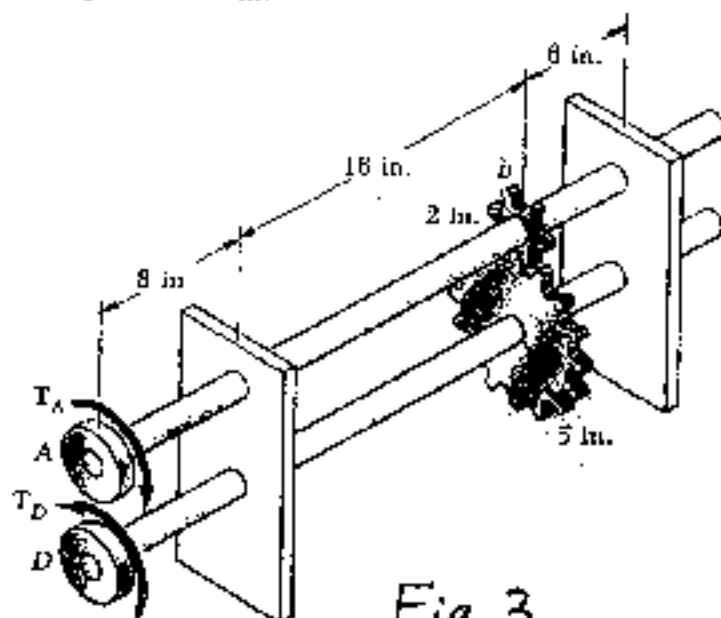

Fig. 3
3. The design specifications for the gear-and-shaft system, as shown in Fig. 3, require (i) that the same diameter be used for both shafts and (ii) that the rotating angle of pulley A be less than 7.5° . The pulley A is subjected to a $2 \text{ kip}\cdot\text{in}$ torque T_A while pulley D is held fixed. The radii of gears at B and C are 2 in and 5 in, respectively. Determine the required diameter of the shafts if both shafts are made of steel with $G = 11.2 \times 10^6 \text{ psi}$ and the allowable shearing stress $\tau_{all} = 8 \text{ ksi}$. (20%)